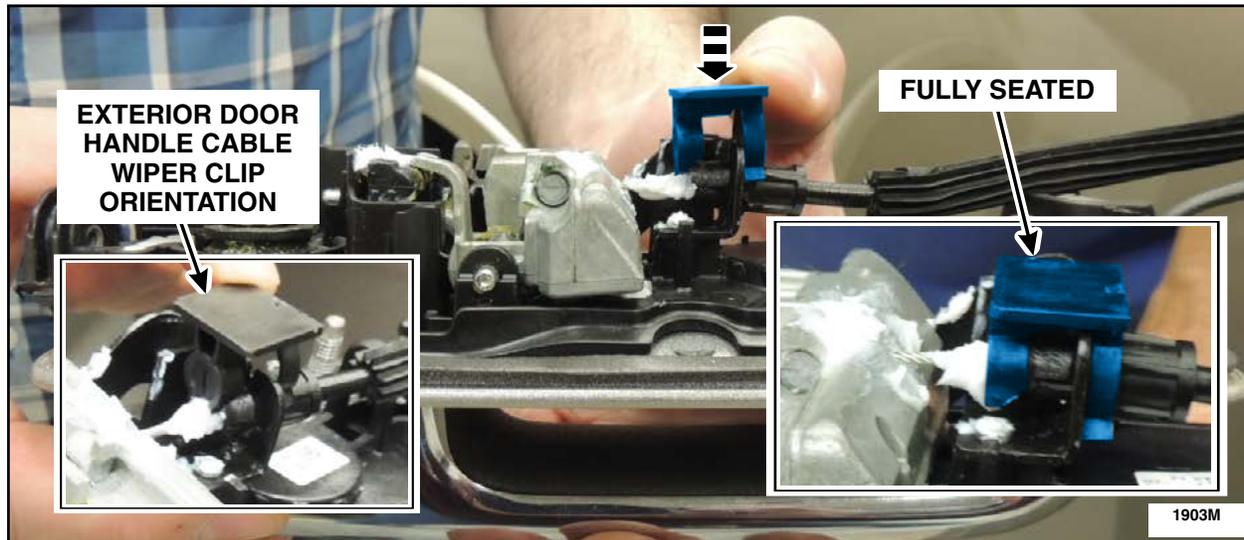

FIGURE 101
25. Install a new handle cable wiper clip on the exterior door handle cable end. See Figure 101.